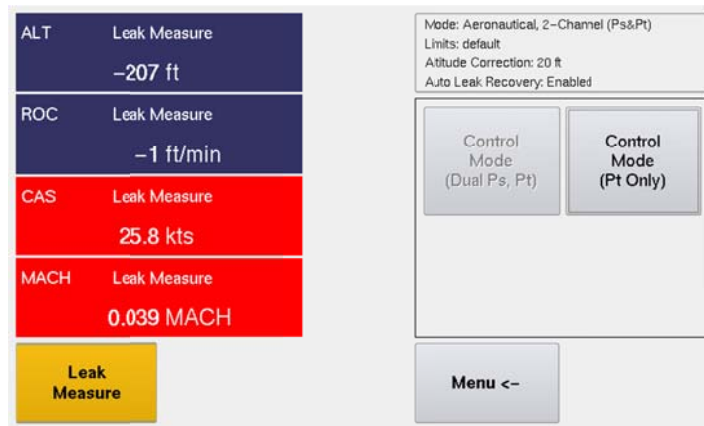

Figure 19 Default 2-Channel (Dual Ps, Pt) mode
(1) Default: Aeronautical 2-Channel (Ps&Pt) (Figure 19)